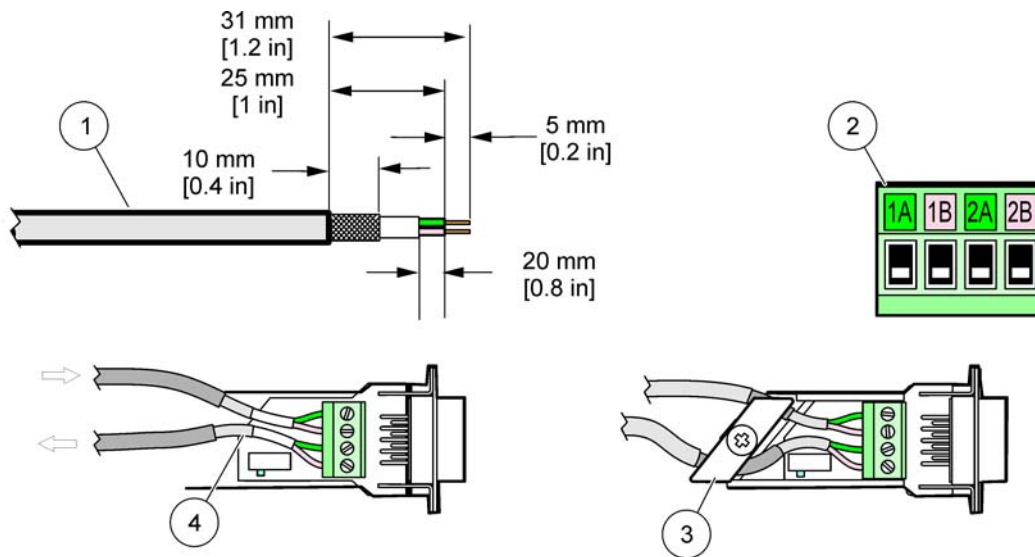

Figure 30 Removing the insulation from the communication cable
1. Strip the insulation from the communication cable (Figure 30).